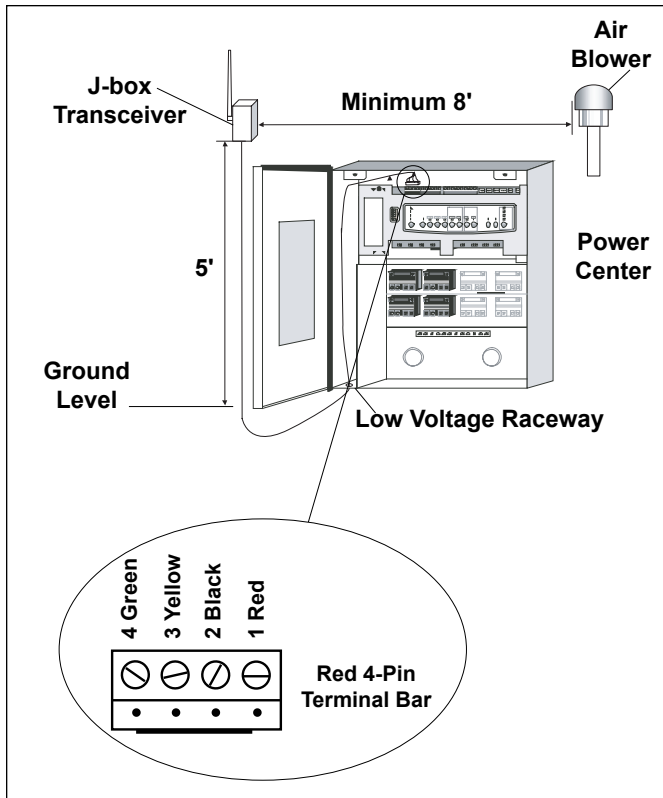

Figure 30. Outdoor Transceiver J-box Installation for Wireless OneTouch Control Panel
2. Mount the Outdoor Transceiver J-box at least 5' above the ground and at least 8' from an air blower (see Figure 30).